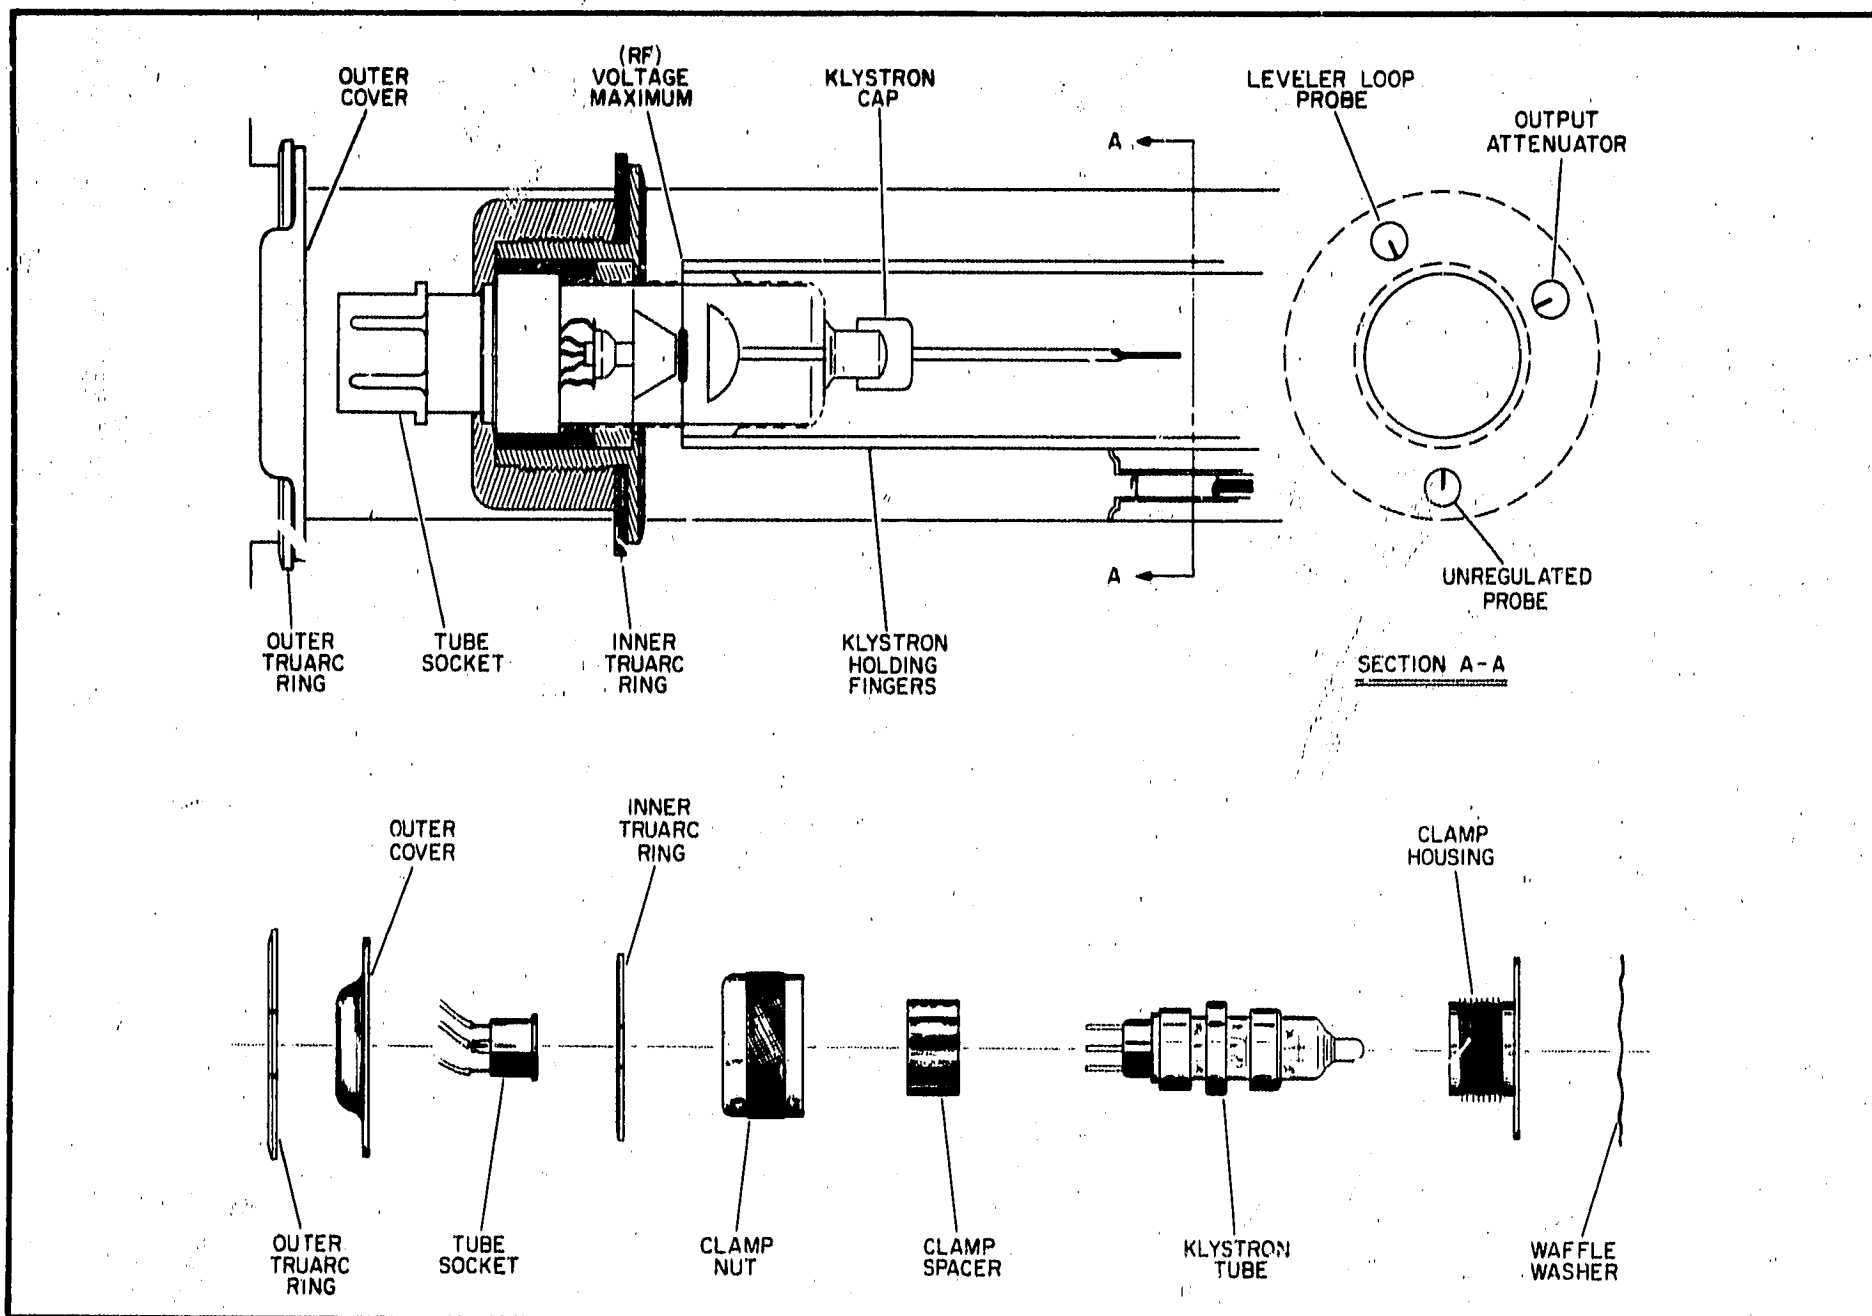

Figure 5-2. Cut-Away View of Klystron Cavity and Klystron Assembly
- a. Remove panel cover on left (with respect to front panel) side of instrument (see Figure 5-2).
outer truarc ring from the outer cover of the klystron cavity (see Figure 5-2).
- f. Unscrew clamp nut, lift out clamp spacer, and remove klystron (see Figure 5-2).